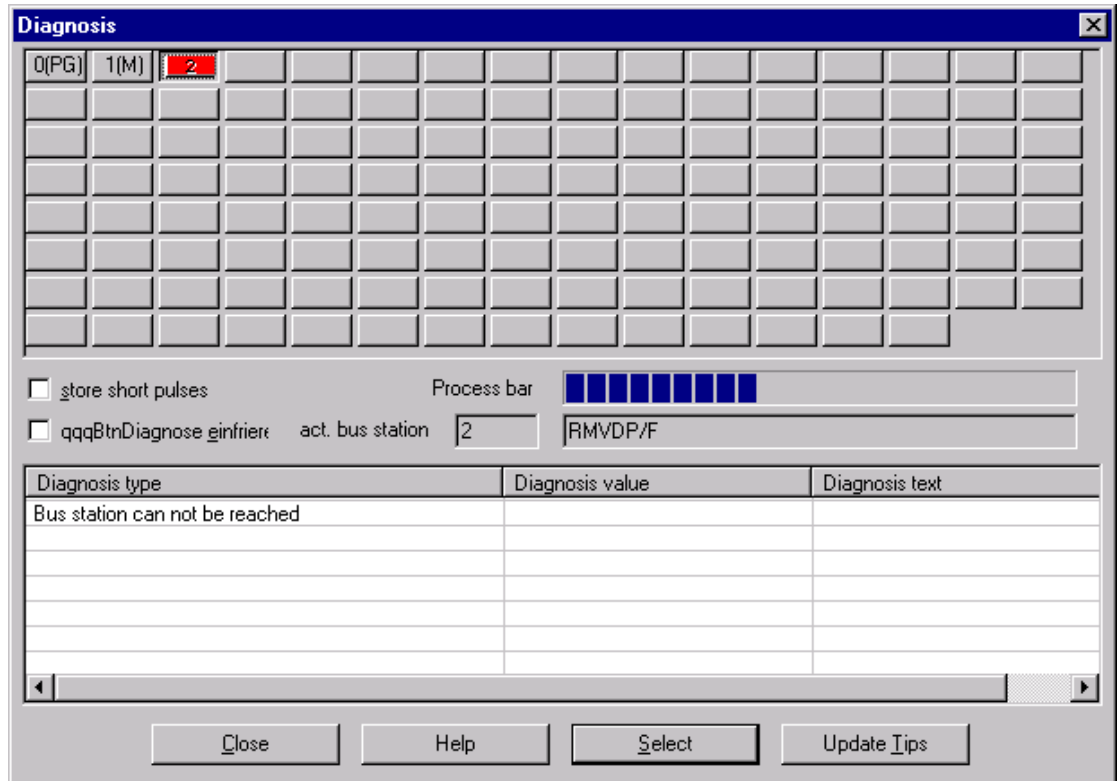

Figure 4-6: Diagnostic window with configuration error
*See figure 4-6*
In the example in figure 4-6, the slave at address 2 reports an error and address field 2 has a red background. If the bus slave is clicked on, the corresponding diagnostic message is received in the text window: "Bus station can not be reached."